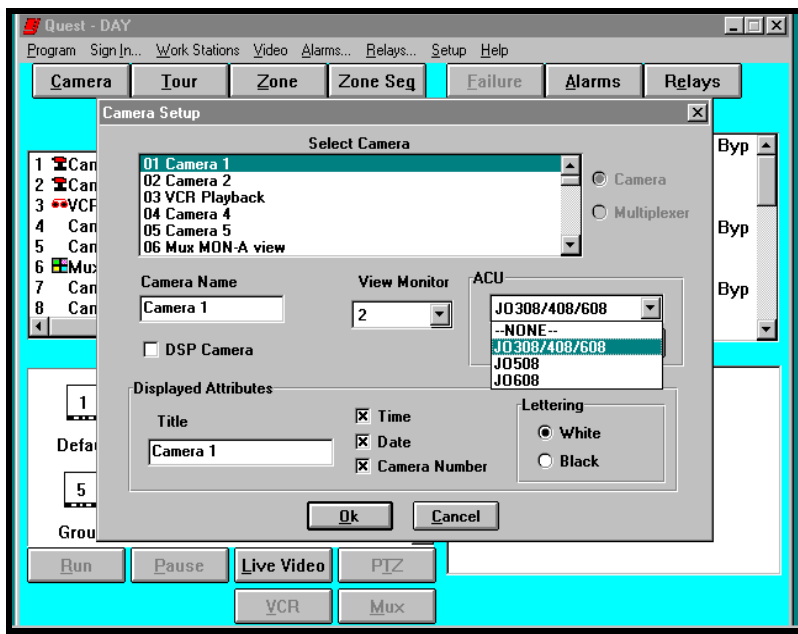

Figure 3-8. ACU Selection Window
7. If the selected camera has a pan/tilt or dome attached, select the proper device name from the ACU selection box (Figure 3-8). Click on the check box (☐) corresponding to DSP if the camera is a Javelin DSP camera. An **X** is placed inside the check box (☒) indicating the function has been selected. An empty check box indicates that the function has not been assigned. Select a viewing monitor and click on the ACU **Setup** button to display the Pan/Tilt Setup window. Figure 3-9 illustrates the Javelin serial ACU setup screen. The "Program DSP" button is available only when an **X** is placed in the "DSP Camera" check box.